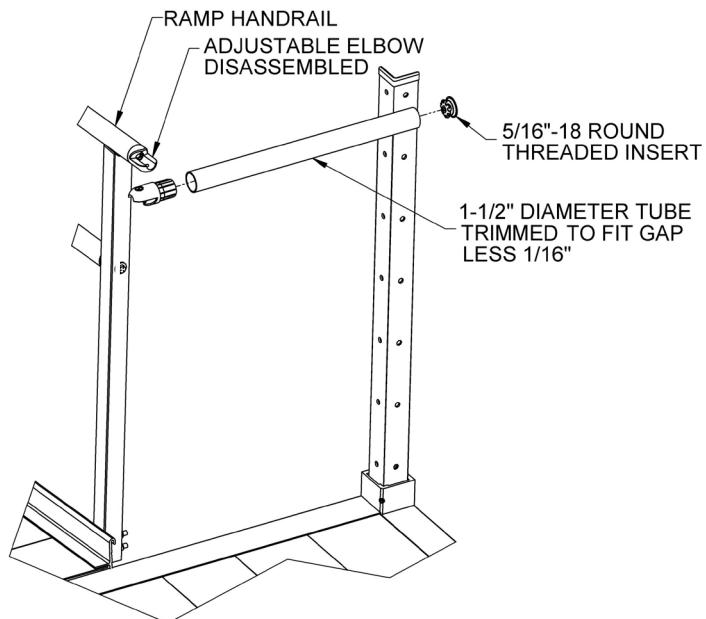

FIG. 5.3
- 5.4.3. Trim the 1-1/2" diameter round tube to the length measured less 1/16" (FIG. 5.3).
- 5.4.6. Install an elbow half into the end of the trimmed tube which will attach to the ramp handrail and a 5/16"-18 round threaded insert into the end which will attach to the post (FIG. 5.3).
- 5.8.6. Install an elbow half into each end of the trimmed tube (FIG. 5.3).